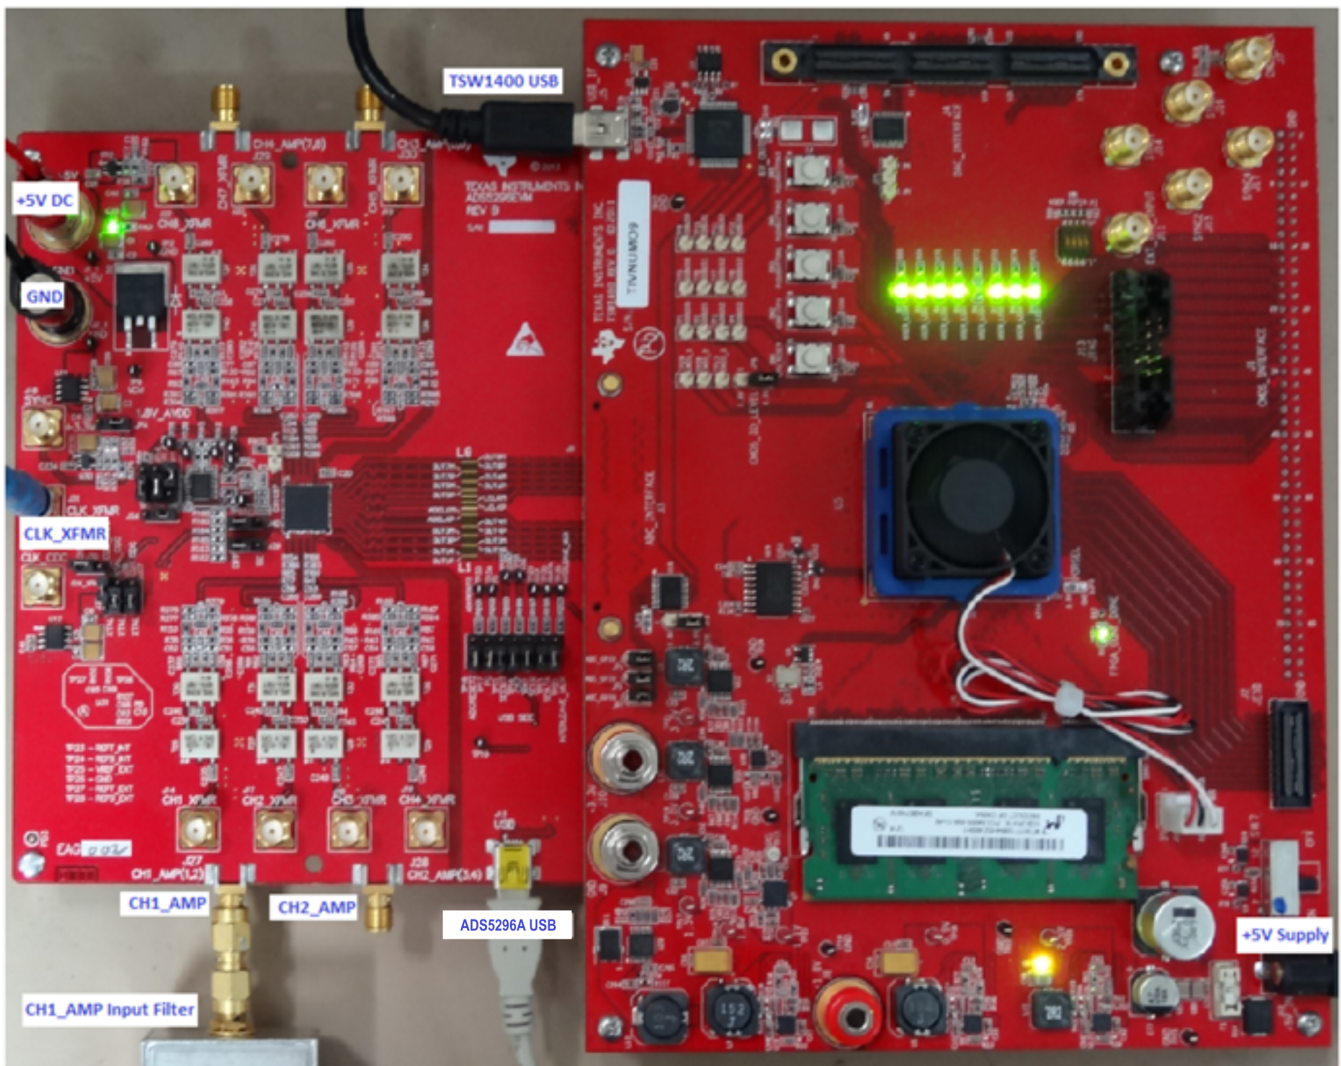

Figure 47. Quad-Interleaving Mode Hardware Setup
1. Setup the EVM as shown in Figure 47 by performing the following steps:
- (b) Provide the input signal to SMA **J27** labeled **CH1_AMP(1,2)** (+15.1 dbm, 10 MHz). For high-performance results the instrument should have low phase noise and low harmonic distortion. In addition, a filter is recommended on the input as shown in Figure 47.